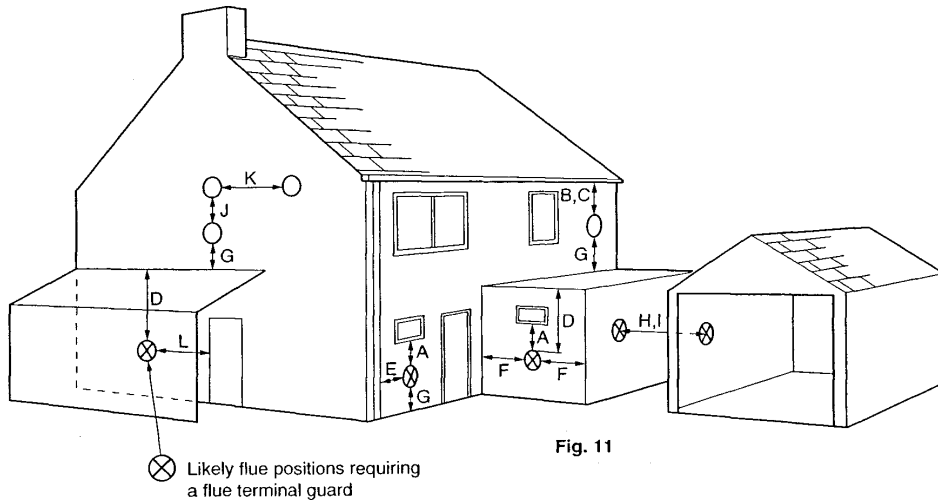

Fig. 11
6. Table 2 and Fig. 11 show the positioning of the flue terminal relative to buildings and other structures.